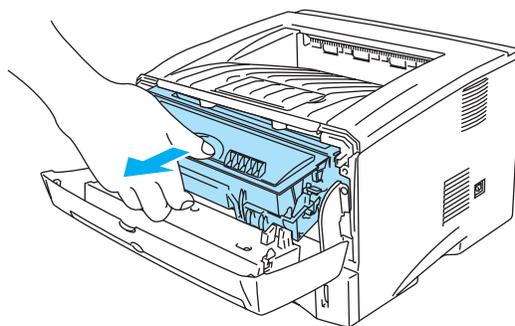

Figure 5-4
- To prevent damage to the printer from static electricity, do not touch the electrodes shown in Figure 5-4.